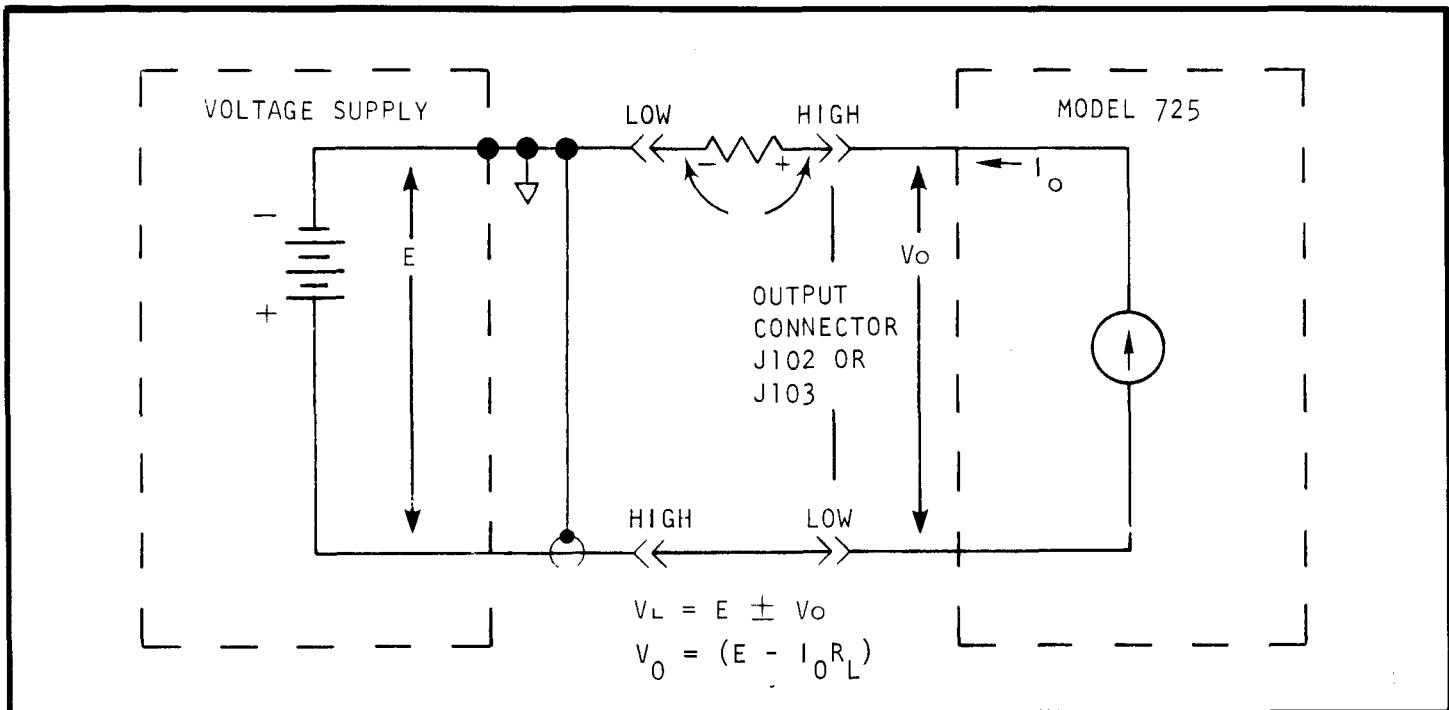

FIGURE 2-6. Floating Supply.
f. Maximum Load. The Model 725 will deliver the programmed current for a load resistance from 0 to R_{MAX} . The value of R_{MAX} is determined by the magnitude of the programmed current (I) and the compliance voltage selected (V_C) where $R_{MAX} = V_C/I$. If the load resistance exceeds R_{MAX} , then the Model 725 will automatically switch into voltage limit mode, indicated by the COMPLIANCE LIMIT lamp (DS101) being lighted.
g. Floating Operation. The instrument can be floated up to ± 100 volts off of chassis ground with less than 20ppm of full range change in output current per volt on the 100nA range and less than 10ppm per volt on the other ranges. For floating operation, the shorting link must be removed. The outer shell of both OUTPUT connectors is always at chassis ground for safety when floating the instrument. A 5uF filter capacitor (C217) is connected between the LOW and chassis GROUND binding posts to minimize line frequency pickup. The LOW to GROUND isolation is approximately 10^7 ohms. A typical example of floating operation is shown in Figure 2-6. In this example, the Model 725 can be used with a voltage supply such as the Keithley Model 240A to extend the maximum useable compliance voltage to +200 volts (+100 + floating voltage). In this case the Model 725 can be adjusted for a compliance voltage of $+100 \pm 100$ volts dc. The maximum current is 10 milliamperes (for the Model 240A).
2. Current Sink. The instrument can be used as a current sink as shown in Figure 2-6. In this case, the polarity of the current is such that current is flowing into the Model 725. The output voltage $V_0 = E - I_0 R_L$, where I_0 is the programmed current, R_L is the load resistance.